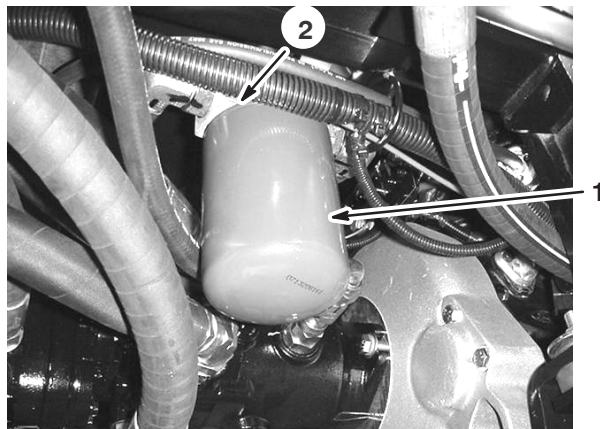

Figure 42
2. Clean the area around the filter mounting area (Fig. 42).
4. Remove the filter (Fig. 42).
5. Lubricate the new filter gasket (Fig. 42).